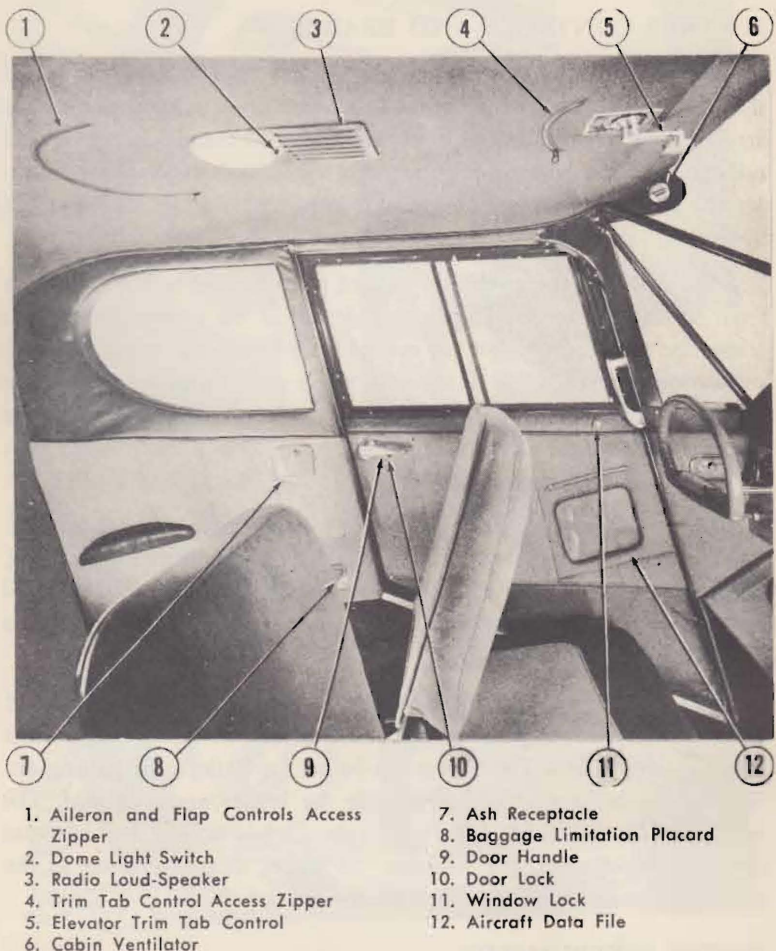

Figure 2—Left Side of Cabin
27. A 12-volt battery and engine-driven generator, supply power for the single wire type electrical system (refer to Figure 2). The battery and its case are mounted under the left front seat. The case is vented and provided with a drain to prevent acid damage to the airplane or injury to its occupants. The battery supplies the power to start the engine. The generator supplies energy to the electrical system after the engine is operating at sufficient speed. Electrical power from the generator is fed into the electrical system through a voltage regulator that maintains constant voltage in the system. Power from both the battery and the generator is supplied to a main bus from which current is drawn for the various electrical circuits.